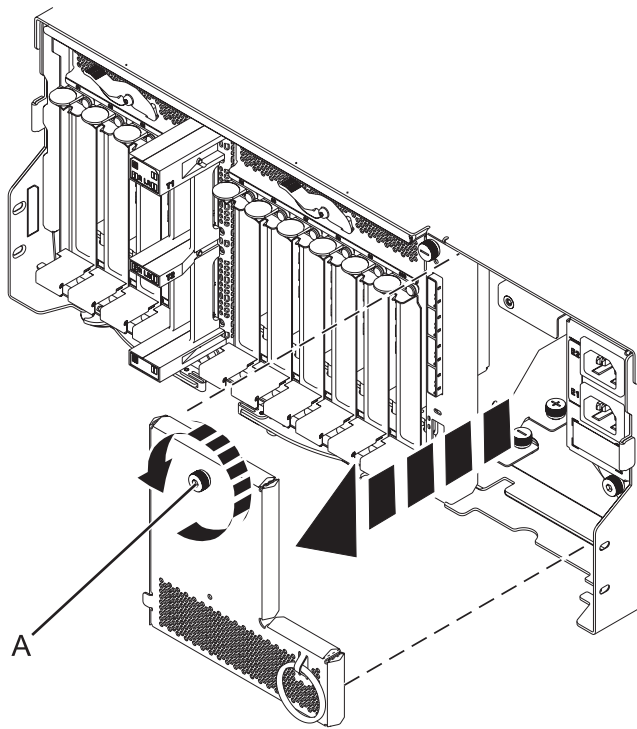

Figure 70. Removing the power cord plate
10. Remove the power cord plate by turning the thumbscrew (A) and pulling the plate away from the system, as shown in Figure 70.